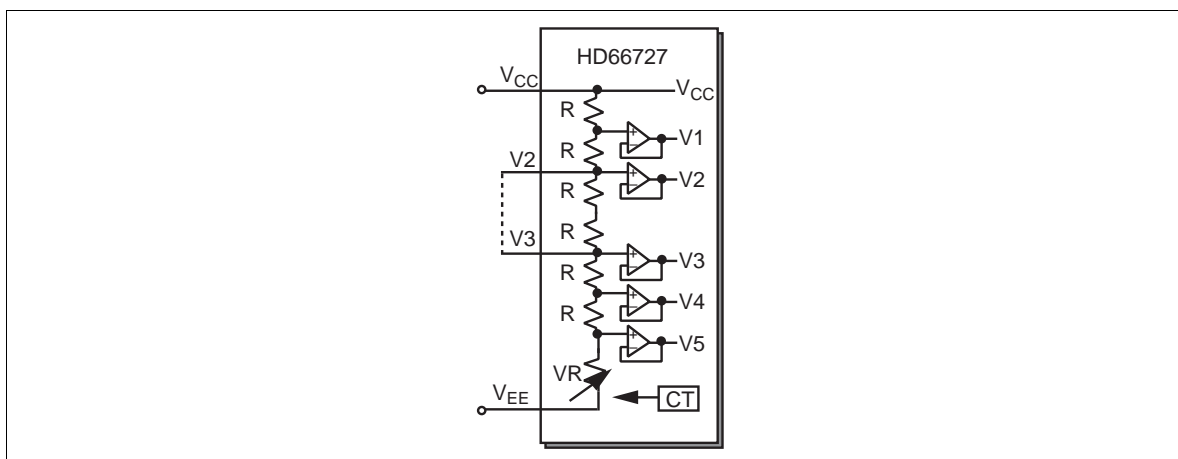

Figure 38 Contrast Adjuster
Contrast for an LCD controlled by the multiplexing drive method can be adjusted by varying the liquid-crystal drive voltage (potential difference between V_{CC} and V5) through the CT bits of the contrast control instruction (electron volume function). See Figure 38 and Table 30. The value of a variable resistor (VR) can be adjusted within the range from $0.4 \times R$ through $6.4 \times R$, where R is a reference resistance obtained by dividing the total resistance between V_{CC} and V5.